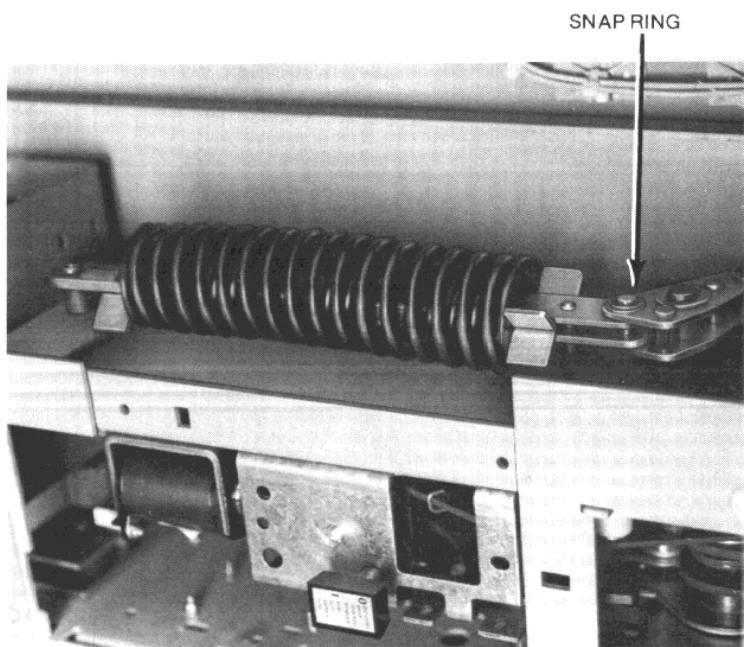

Figure 11
4. Remove the snap rings on both springs (Figure 11). Be certain to note the position of the washers and the main pins so they may be replaced in the same manner when reassembling.